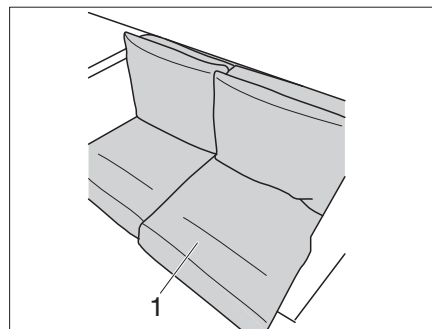

Fig. 210 Put cushion on top
The back of the seat cushion (Fig. 210,1) is reinforced by plastic.
- Put the cushion with reinforcement (Fig. 210,1) on top on the right-hand side.